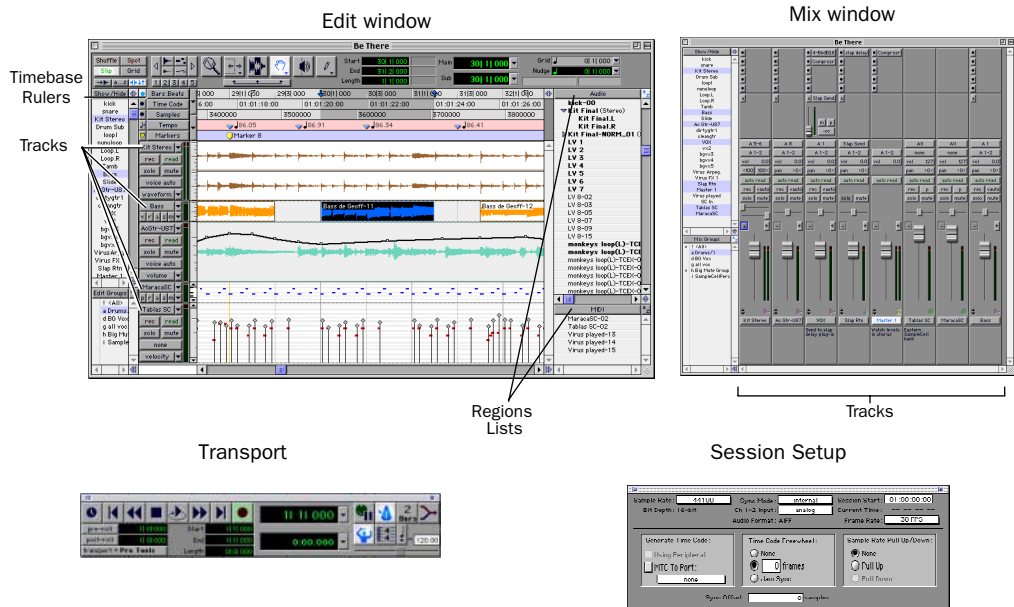

Figure 3. Main session windows (Macintosh shown)
- 6 Choose Save. The new session opens its Mix, Edit, and Transport windows (see Figure 3 on page 49).
The Mix, Edit, and Transport windows are the main Pro Tools work areas (see Figure 3 on page 49). You can show (or hide) any of these windows by choosing show (or hide) commands in the Windows menu.